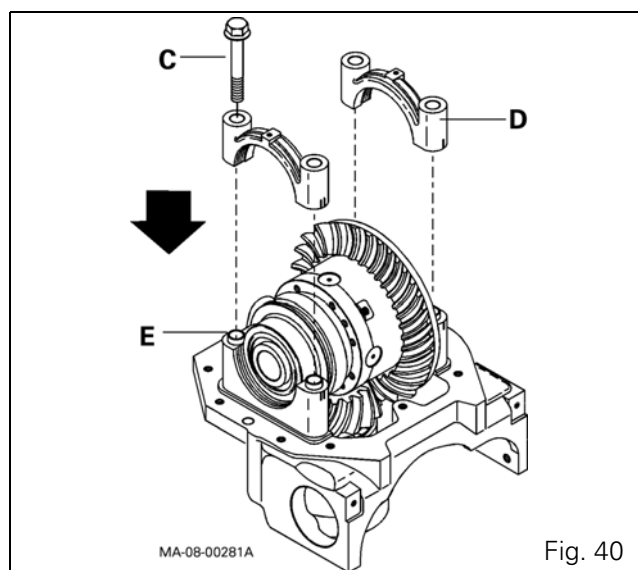

Fig. 40
46. Move the differential assembly so that the bevel ring gear can be positioned on the pinion. Ensure that all rings E are in position in their seatings and place both half-bearings D on their seats, following the marks made during disassembly. Lock the two half-bearings with their screws C (Fig. 40).